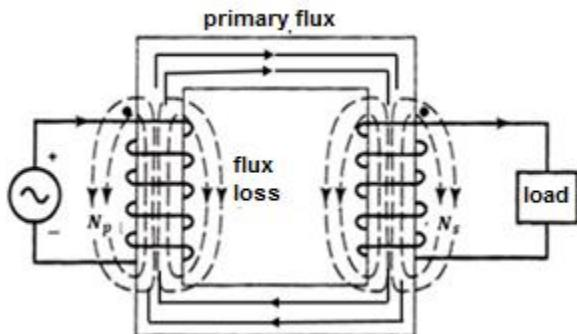

Figure 6: Flux leakage in the coils of a practical transformer
- b. There is a leakage of magnetic flux in the coils of the transformer, for example, a small part of the flux passes through the air rather than the core of the coils (see Figure 6). This variability of leaking flux creates magnetic inductance. We will denote with X_p, X_s the resultant reactance caused by the leakage of the flux in the primary and secondary coils respectively.
- c. Since the core material does not have infinite permeability, an electric current is required to create the main flux (Fig. 6). X_M denotes the reactance responsible for the formation of the main flux in the transformer core as a result of the current in the primary coil.